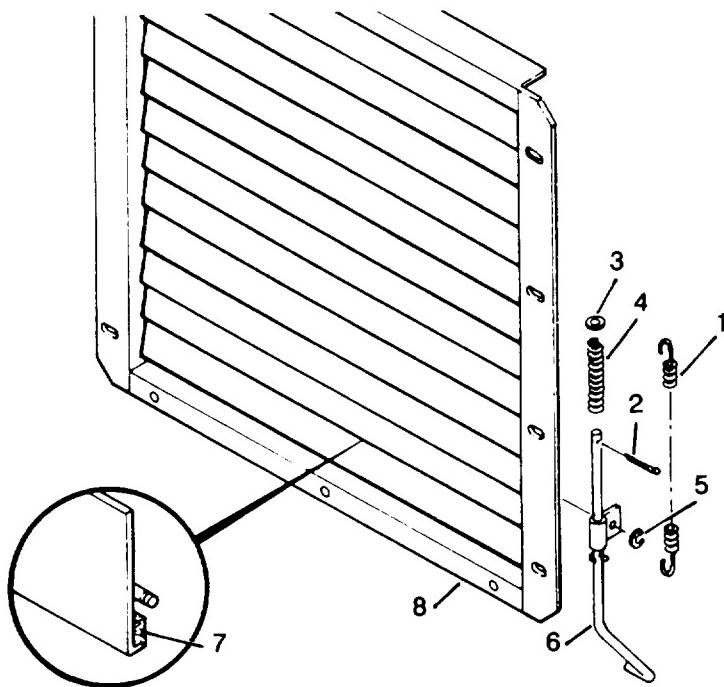

Figure 3-27. Shutter Assembly, Exploded View
- (1) Remove spring (1, figure 3-27).
- (2) Remove cotter pin (2) to remove retainer (3) and spring (4).
- (3) Remove retainer (5) to remove control lever( 6).
- (4) Remove any damaged or deteriorated seals (7) from vanes of shutter (8).
- (1) Position Shutter (8, figure 3-27) to install new seal (7).
- (2) Install control lever (6) and retainer(5).
- (3) Install spring (4), retainer (3) and cotter pin (2).
- (4) Install spring (1).